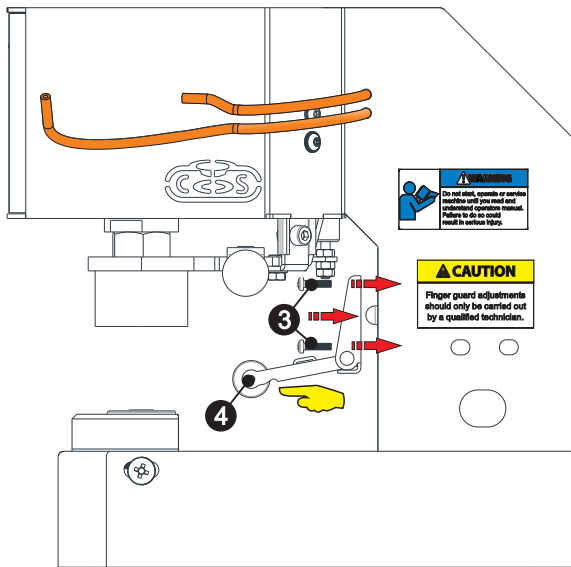

fig. 93
Install the roller mechanism ❹ to the valve by fixing the screws ❸ with a screwdriver as shown in (fig. 93).